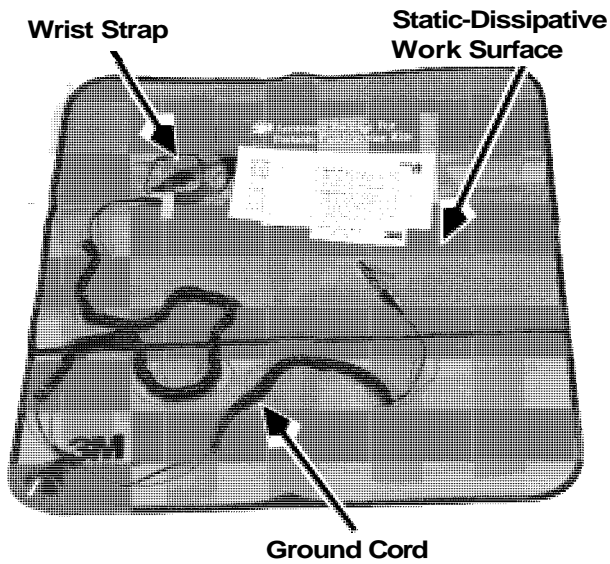

Figure 2-3. Anti-Static Kit With Wrist Strap and Mat
3. Before removing or installing static-sensitive components, place them on a properly grounded static mat. See Figure 2-3.
Figure 2-3 shows the components of the Toyota anti-static field service kit, part number 00590-04849-71. The kit includes a wrist strap, ground cord and static-dissipative work surface (mat). Follow the instructions packaged with this kit.